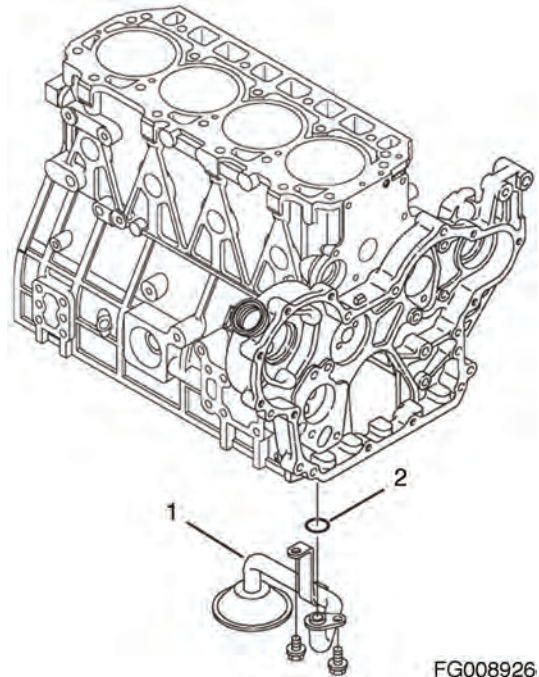

Figure 225
1. Reinstall the oil pickup tube (1, Figure 225) using a new O-ring (2, Figure 225).